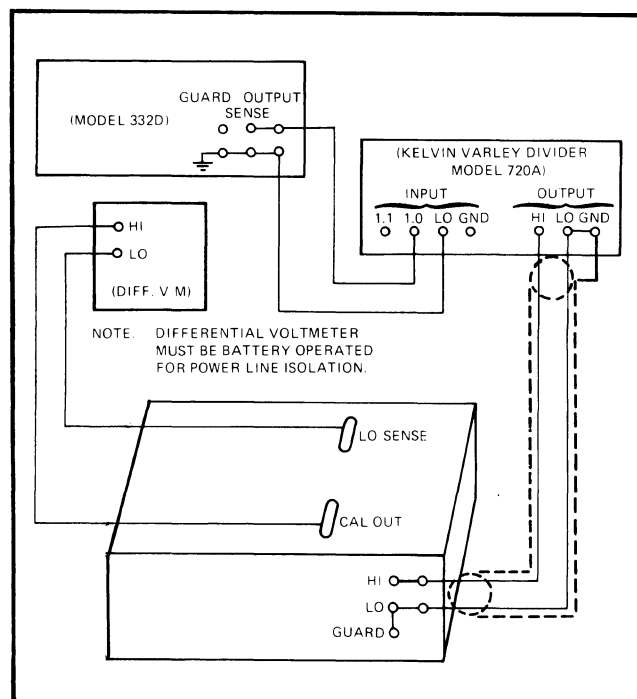

Figure 4-9. EQUIPMENT CONNECTION FOR CALIBRATION
- Connect test equipment as shown in Figure 4-9.
- Connect equipment as shown in Figure 4-9.
- a. Connect equipment as shown in Figure 4-9.
- b. Connect equipment as shown in Figure 4-9.
- a. Connect equipment as in Figure 4-9, but do not make the differential voltmeter connections.